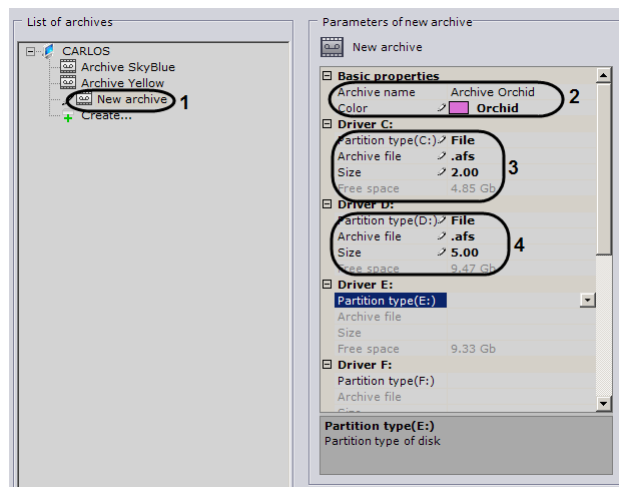

Fig. 6.5—3 Setting archive parameters
3. In the **Basic properties** group (see Fig. 6.5—3, 2), identify the archive: